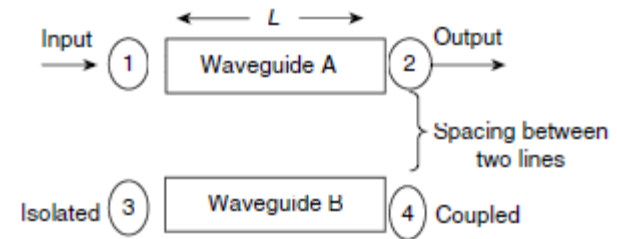

Figure 6.19 (a) Coupler
- A coupler is a device that **consists of two waveguides** which are placed very close to each other (as shown in Fig. 6.19 (a)).